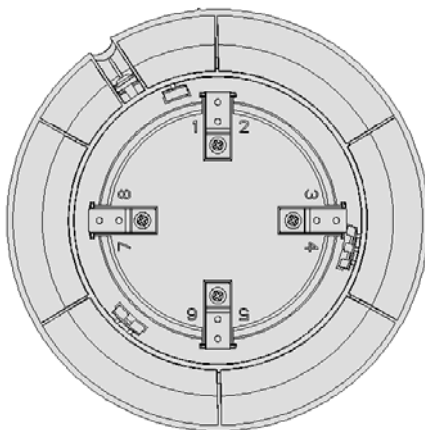

Fig.2 Bottom structure of the Base
2. The bottom structure of the Addressable Sounder Base as shown in Figure 2. Install the Addressable Sounder Base on the base with the installation terminals of the two devices are one-to-one. The device number or other device parameters can be verified with a handheld programmer if desired.